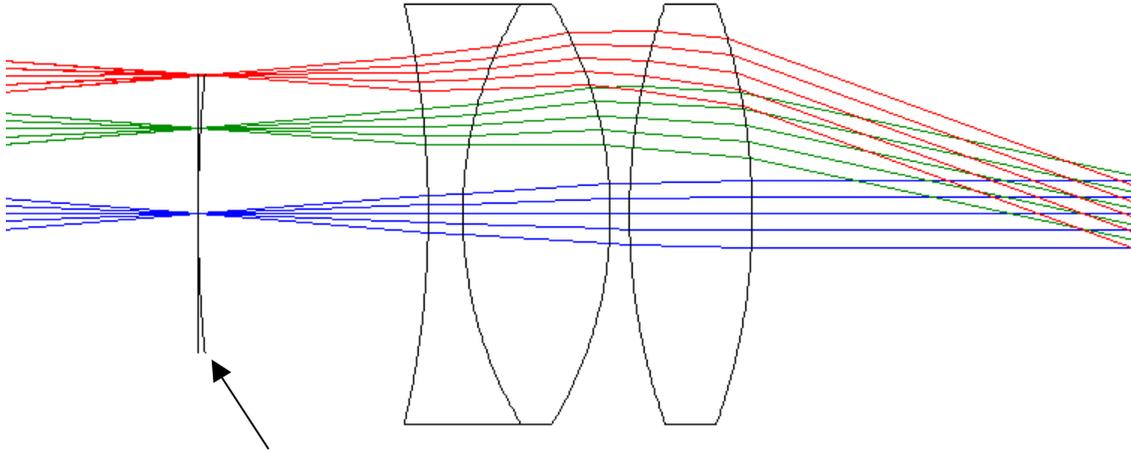

Figure 5. Backwards field curvature of modified König.
6) *Curvature of field.* Because we cannot always know what instrument the eyepiece will be fitted to, we must choose an eyepiece that fits the generic behavior of imaging a flat field. Optimally, the primary produces a flat field, which is then imaged accurately by the eyepiece. This is not always the case, but the best way of making a general-purpose eyepiece is to pretend that it is so. In the case of the modified König in Figure 5, we see a curvature away from the objective (to the left). In all cases of interest (normal or catadioptric Cassegrains, refractors, or